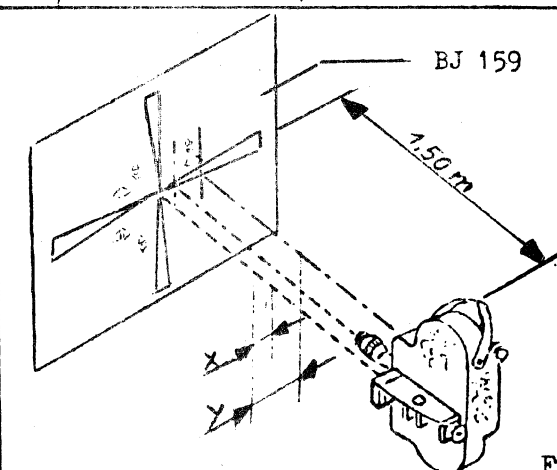

Fig. 4
2. Adjusting the viewfinder on the camera (fig. 4)